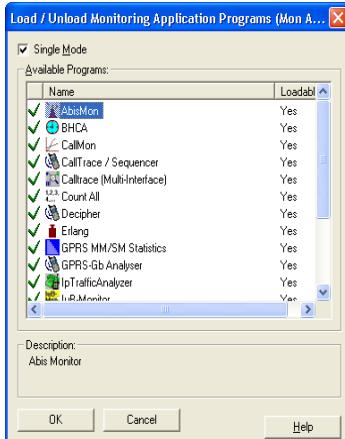

Figure 43: Load / Unload Application Programs dialog box
1. Deselect the *Single Mode* box. This activates the right part of the dialog box shown in figure 43.